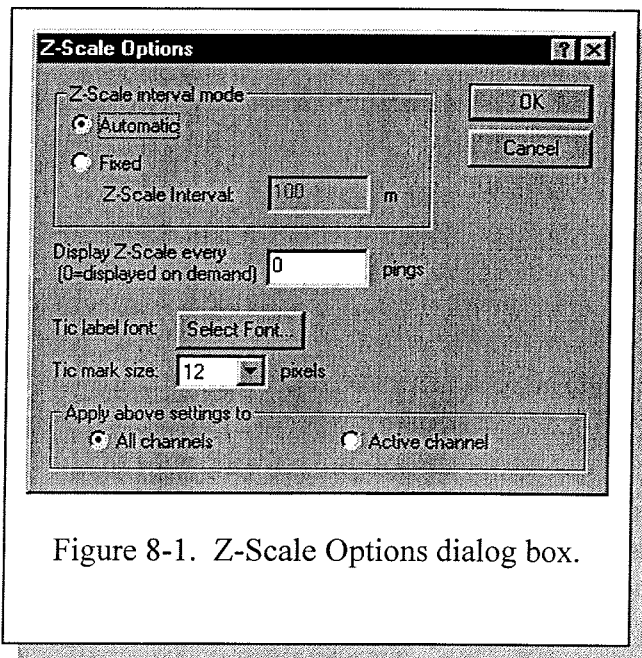

Figure 8-1. Z-Scale Options dialog box.
8.3 Z-Scale options (Figure 8-1.)